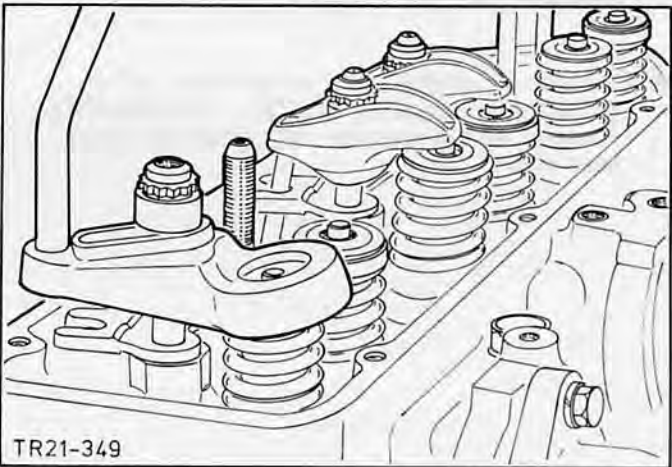

Fig.101. Fit special tool 21-056.
6. Secure special tool 21-056 to the cylinder head with a nut, Fig.101.